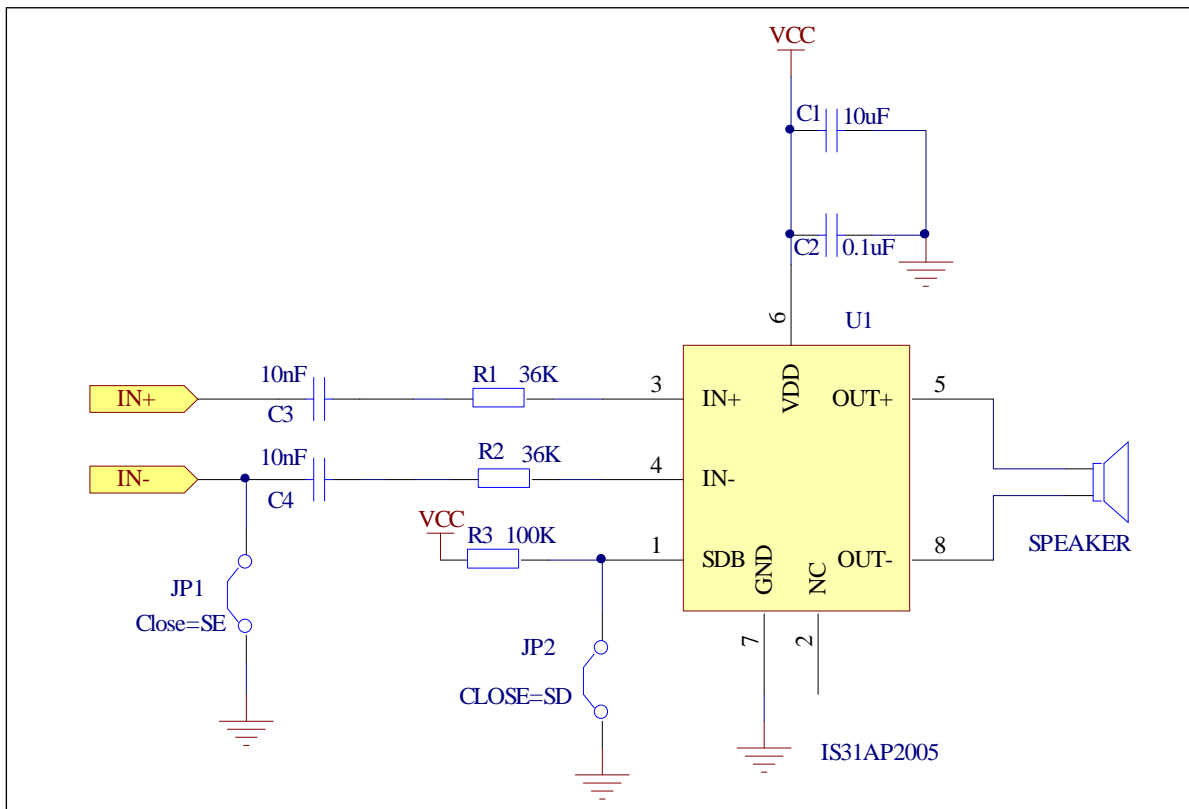

Figure 2: IS31AP2005 Application Circuit
*Bill of materials, refer to Figure 2 above.*